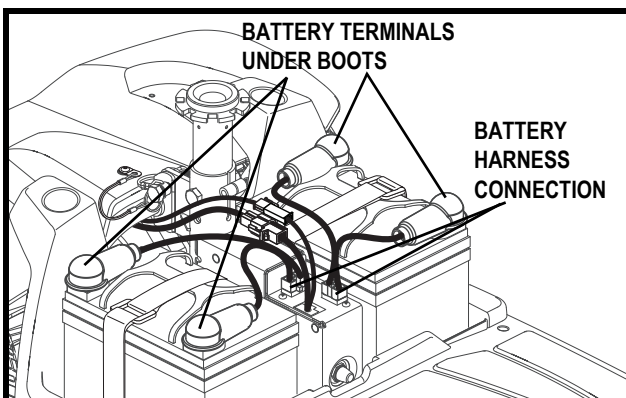

Figure 13. Battery Removal/Installation
3. Disconnect the battery harnesses by depressing the tabs and then pulling them straight up. See figure 13.